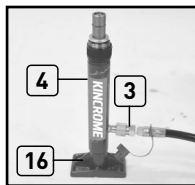

Fig.3
3. Fit the flat base plate (12) male connector (8) and desired extension tubes (3-6) with the hydraulic ram (Fig.3).